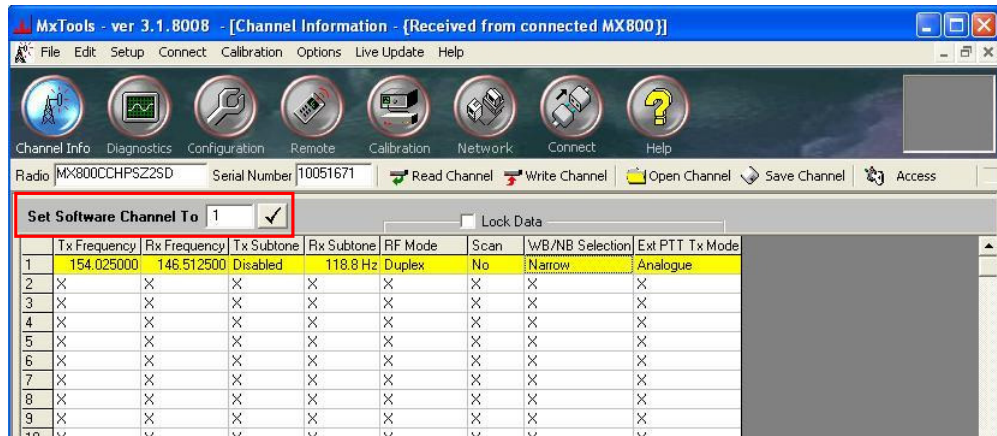

Figure 10. MxTools – Set Software Channel to tick button.
22. On MxTools Channel screen, select channel No 1 and select the 'Set Software Channel To' tick button (see **Figure 10** overleaf).